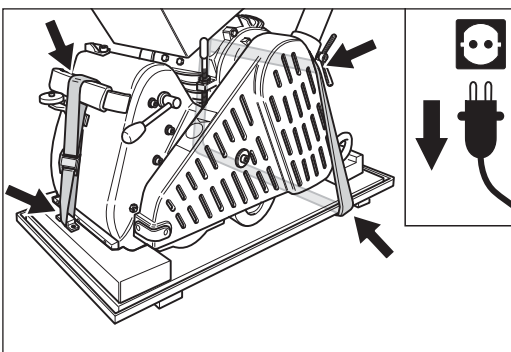

Fig. 38 Transport or storage of the machine on the bottom part of the transport crate.
- During transport or storage, the machine can also be firmly lashed to the bottom part of the supplied transport crate using two belts (Fig. 38)! This will prevent damage to the sanding drum and stop the wheels becoming out of round!
**When storing for long periods, place the machine on the bottom part of the supplied transport crate (Fig. 38)! This will prevent damage to the sanding drum and stop the wheels becoming out of round!**